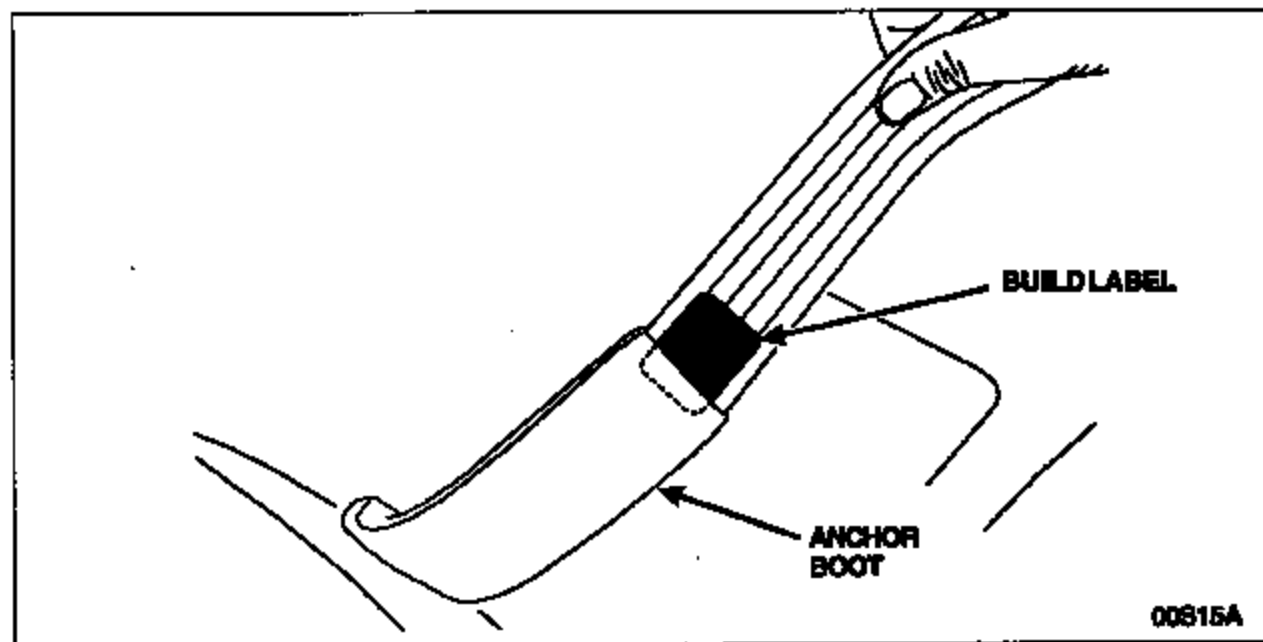

FIGURE 1
- Look for the build label on the webbing directly above the anchor boot. If the build label is located here proceed to Label Inspection on page 3. If the label is not located here proceed to the next bullet point. See Figure 1.